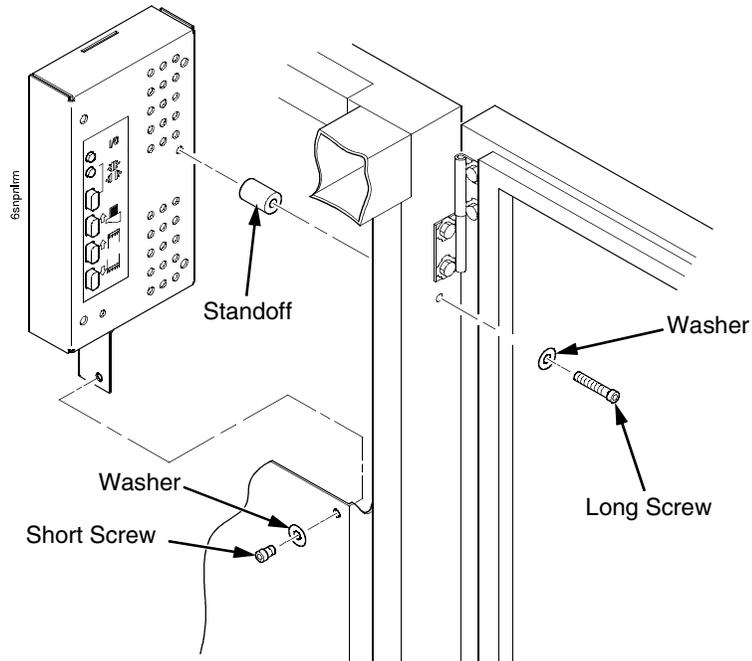

Figure 75. Removing the Stacker Control Panel
13. Remove two screws, washers, and the standoff from the stacker control panel. (Figure 75.)